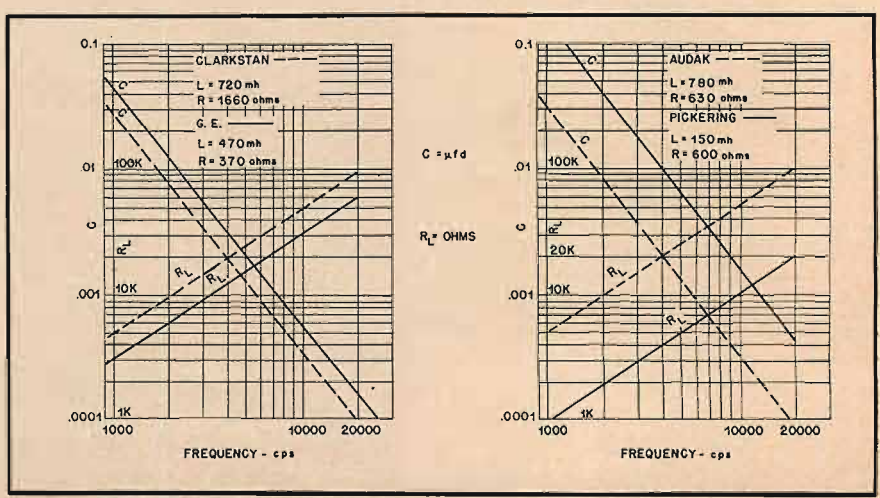
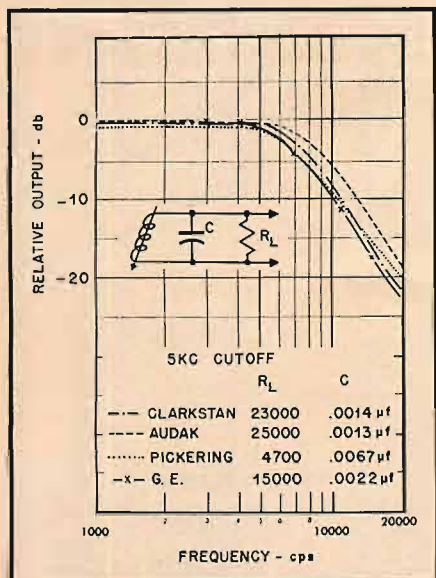

Fig. 5. Values of  $R_L$  and  $C$  for various cutoff frequencies for the four pickups.
Fig. 14. Curves showing 5000-cps cutoff with the four pickups when shunted by resistors and capacitors shown in the legend.
cutoff frequencies are shown in Fig. 5, for each of the four pickups calculated. For any cartridge at any desired cutoff frequency the values of  $R_L$  and  $C$  may be read directly from the left-hand scales.
When the values of  $R_L$  and  $C$  satisfy the relationships expressed by Eqs. (3) and plotted in Fig. 5, a low-pass constant- $K$  filter network results. To indicate the kind of result to be expected with each of the four pickups, Fig. 14